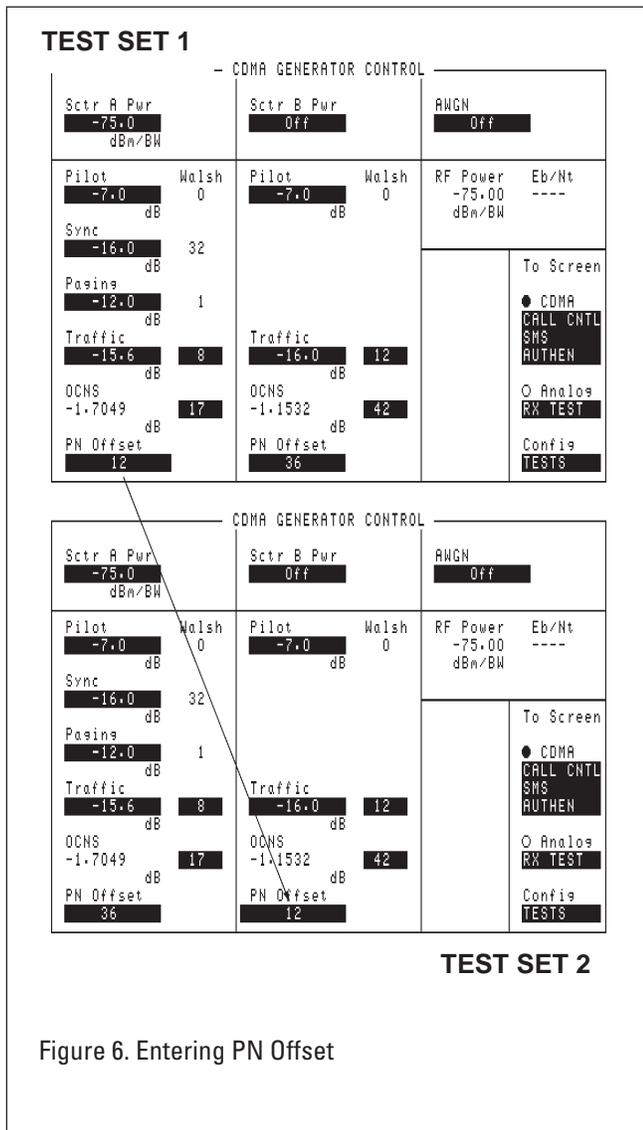

Figure 6. Entering PN Offset
- Enter the same **PN Offset** displayed in Sector A (**Sctr A Pwr**) on Test Set 1 into the Sector B **PN offset** field on Test Set 2 (see Figure 6).